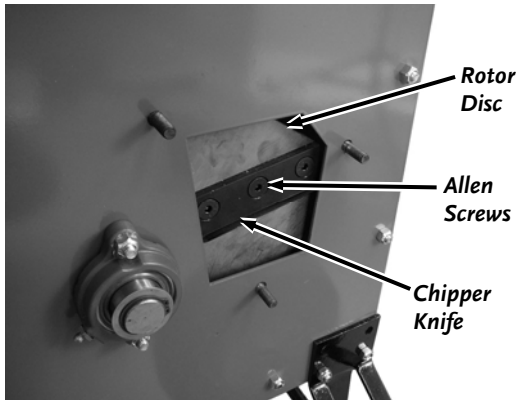

Figure 22
3. Rotate the Rotor Assembly using a stick until the three countersunk Allen Screws attaching the Knife to the Rotor are visible through the Chipper Hopper Opening (**Figure 22**).